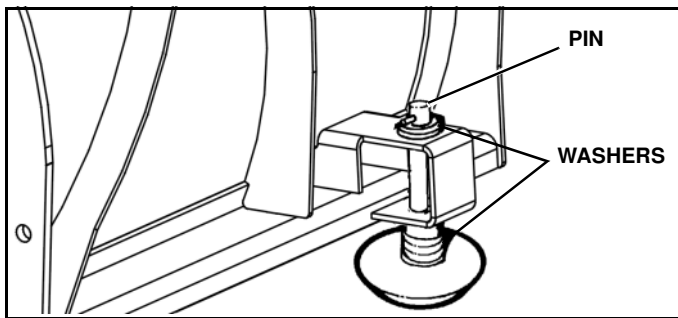
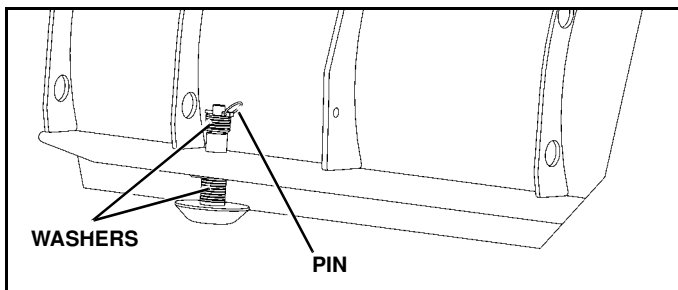

Figure 2-8 (29/32 Series)
Figure 2-9 (29 HD Series)
5. Adjust shoe assemblies by removing shoe mounting lynch pin and adding or subtracting washers on the top or bottom of the shoe-mounting bracket. (See Figure 2-8 or Figure 2-9).